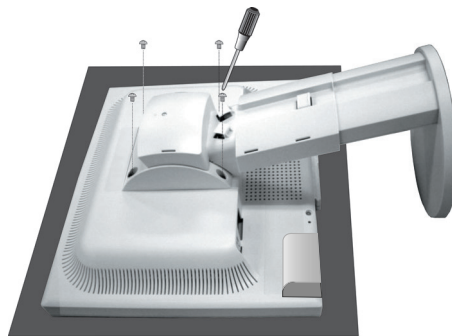

Figure R.3
4. Remove the 4 screws connecting the monitor to the stand and remove the stand (**Figure R.3**).